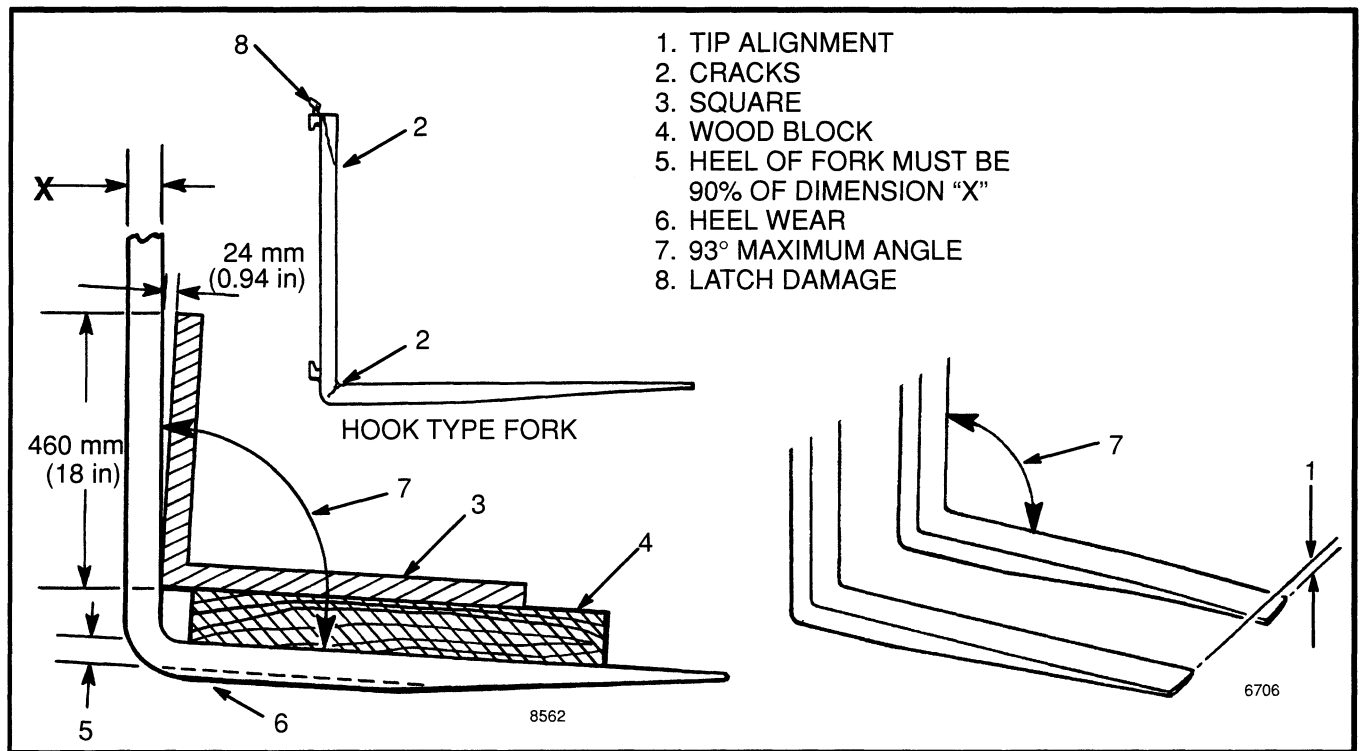
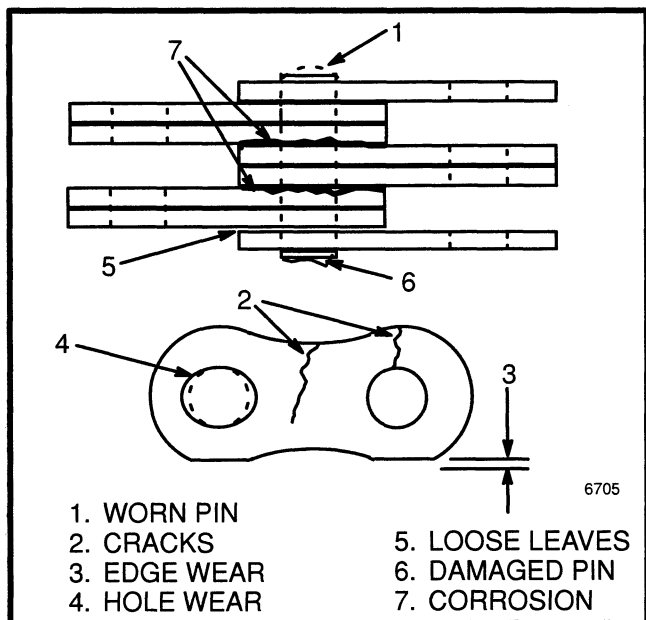

FIGURE 10. CHECK THE FORKS
FIGURE 11. CHECK THE LIFT CHAINS
Inspection Of Forks, Mast, and Lift Chains (See FIGURE 10. and FIGURE 11.)
4. Inspect the forks for cracks and wear. Check that the fork tips are aligned within 13 mm (0.5 in) of each other. (See FIGURE 10.) Check that the bottom of the fork is not worn (Item 5).
8. Inspect the lift chains for cracks or broken links and pins. (See FIGURE 11.)